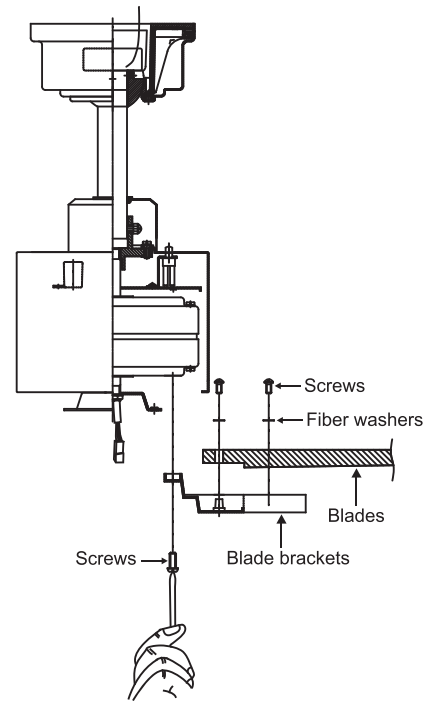

Fig. 16
Step 1. Attach a blade to a blade bracket using the screws and fiber washers provided. (Fig. 16)
Step 2. Attach each blade assembly to the motor using the "Pre-Installed" mounting screws in the blade bracket. (Fig 16)